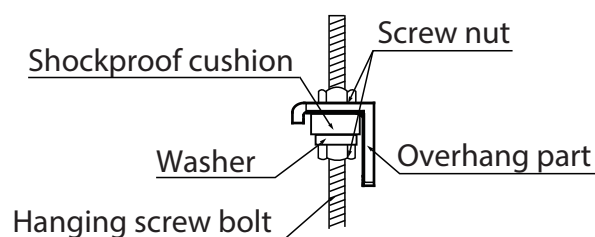

Fig. 3.9
9. Mount the indoor unit onto the hanging screw bolts with a block. Position the indoor unit flat using a level indicator to prevent leaks. (See Fig. 3.9).